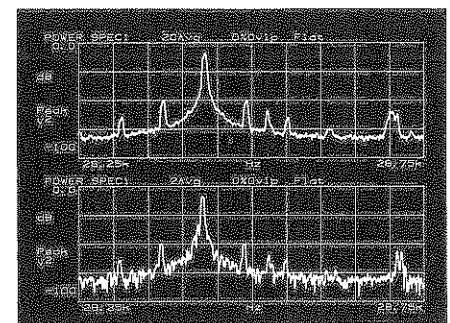

Figure 5-5
**5. Start** Press the yellow **START** key. Figure 5-5 shows two spectra, one after two averages and another after twenty, to highlight the difference with averaging.